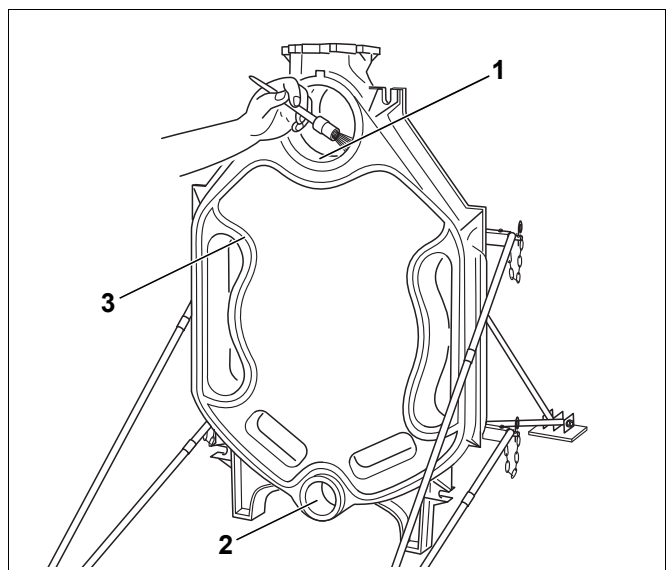

Fig. 13 Prepare packing grooves and hubs
- Clean the packing groove (Fig. 13, [3]) where necessary using a wire brush and cloth.
- Clean the hub sealing faces (Fig. 13, [1] and [2]) with a cloth soaked in white spirit.